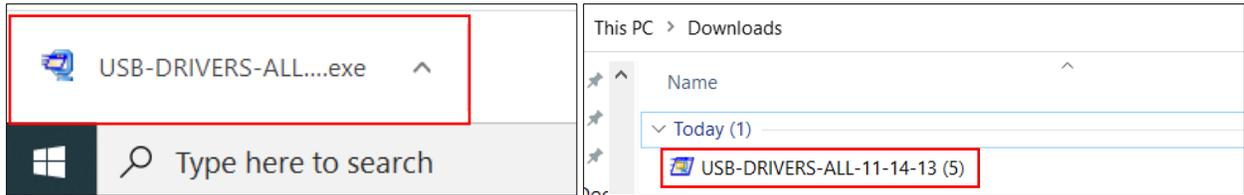

Figure 9: Examples of locating USB-DRIVERS-ALL (USB Link 2 Driver file)
3. A Pop-up screen should show the Exe files otherwise the files should be easily located in the download folder on your PC (see figure 9).